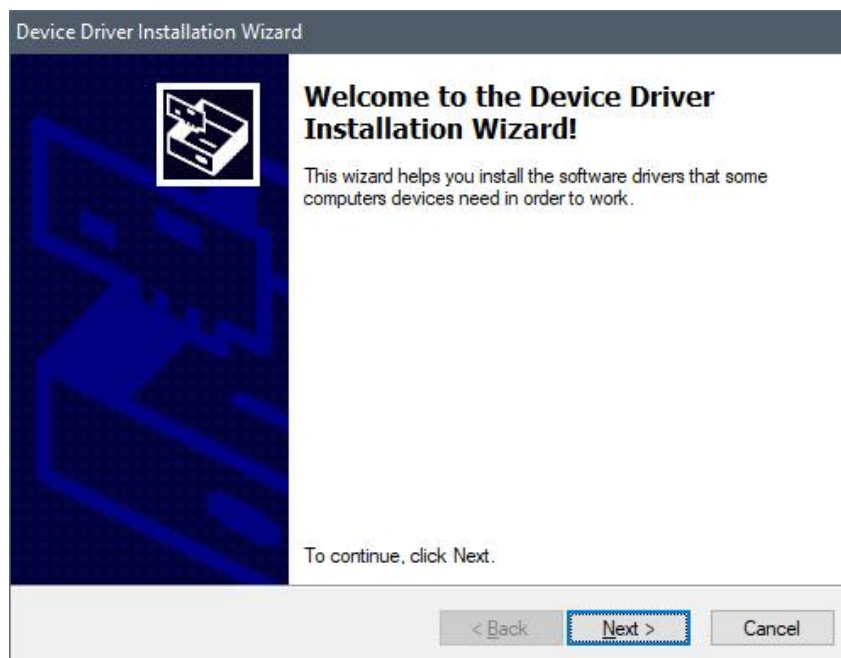

Figure 16: *Driver Installation*
6. With the "Install Drivers" option selected, the installer will proceed to install the MiniTracker 4™ drivers and bring up the driver installation dialog shown in Figure 16. When the window appears click "Next".